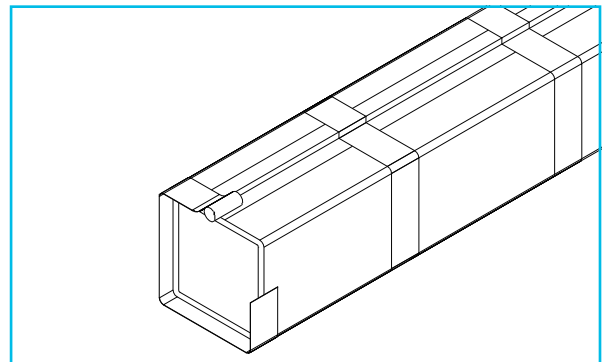

Figure 2
- 2 Place the cutout inside the first layer of E-Mat at the end of the beam with the foil facing away from the beam. Secure E-Mat in place with filament tape. Note that the filament tape is for temporary hold only and therefore the amount of tape and spacing to be used is at the installer's discretion. Repeat with additional sections of cutout to meet the specified number of layers. The butt seam where the wrapped section of E-Mat meets the end cap pieces is to be covered with 3M™ Aluminum Foil Tape 437 100mm (4in). (*Figure 2*).